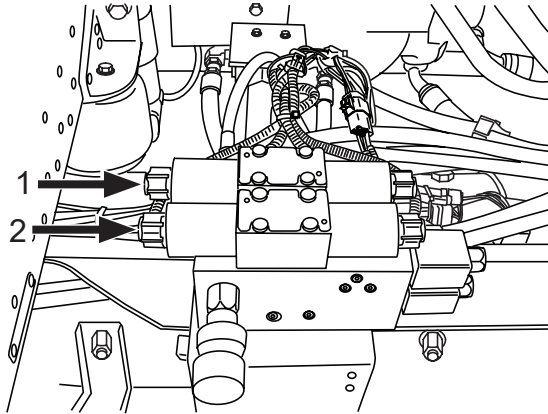

Figure 95
7. Manually shift the start/stop valve spool by pressing in on the end of the spool (Figure 95, Item 1).
8. Manually shift the raise/lower valve spool by pressing in on the end of the spool (Figure 95, Item 2).